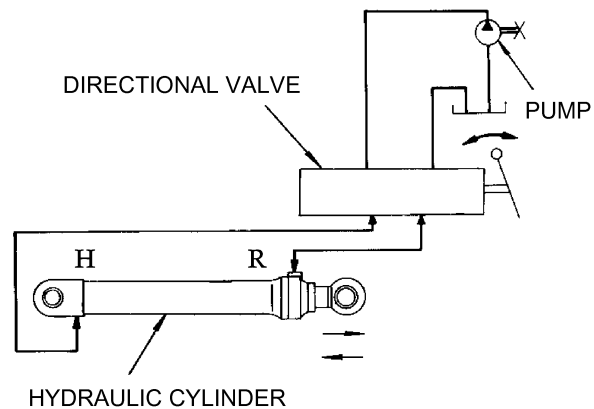
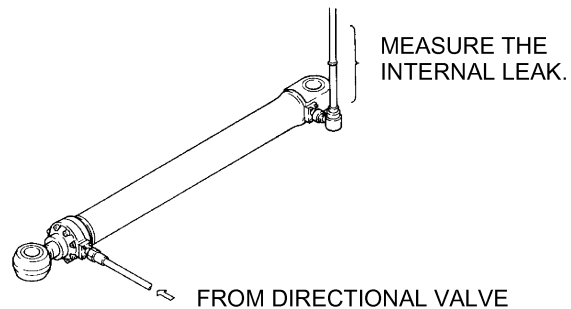

Fig. 1-36 External leak test
Fig. 1-37 Internal leak test
(2) Leak test (See Fig. 1-36 and Fig. 1-37.)